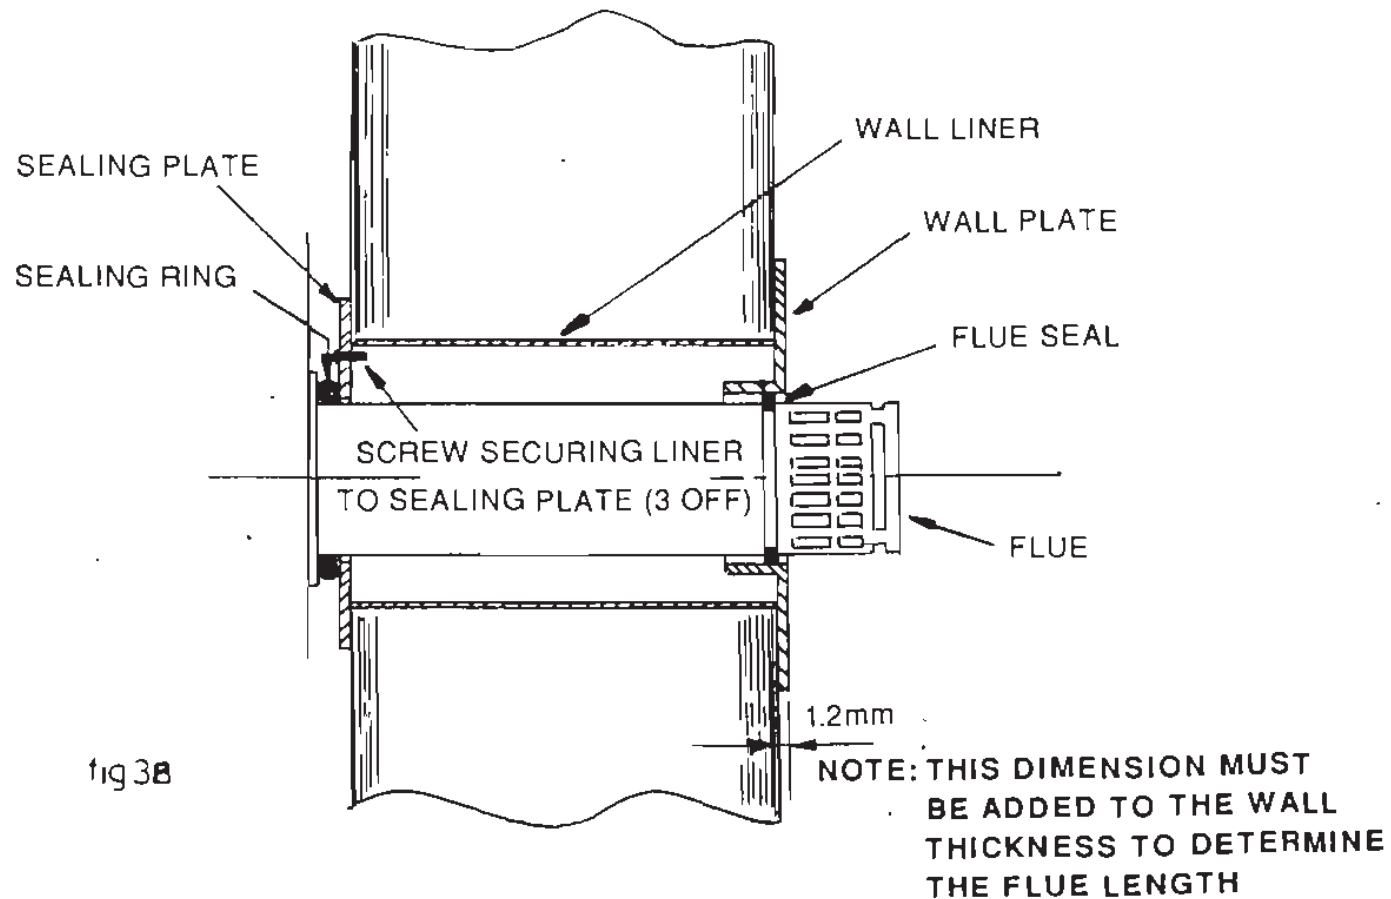

fig 3B
2. If the wall is wholly of combustible material, install the wall plate centrally over the hole from the outside as shown in Fig. 3B. If the outer wall face is uneven, it is recommended that a mastic sealing compound, e.g. secomastic, is applied to the inner face of the wall plate to provide a watertight installation.